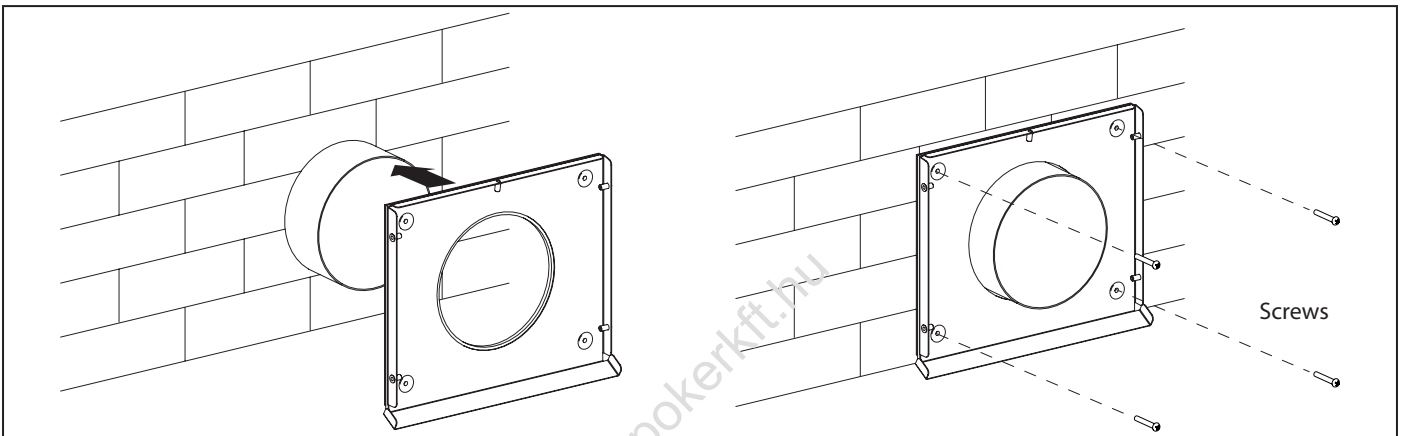

Fig. 15b
- Fig. 15b - models VENTO Ergo A50 S Pro and VENTO Ergo A50-1 S Pro. Fix the back part of the outer ventilation hood to the wall with the screws 4x40 from the delivery set.